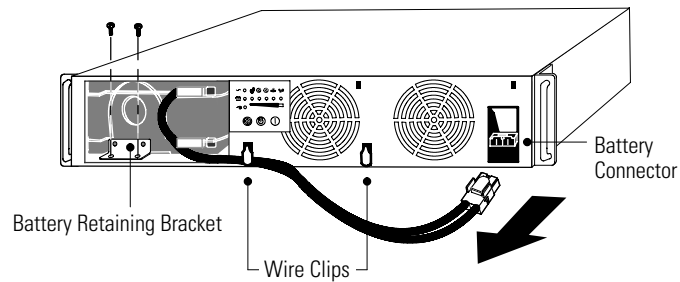

Figure 30. Accessing the UPS Internal Battery
2. Unscrew and set aside the battery retaining bracket (see Figure 30).